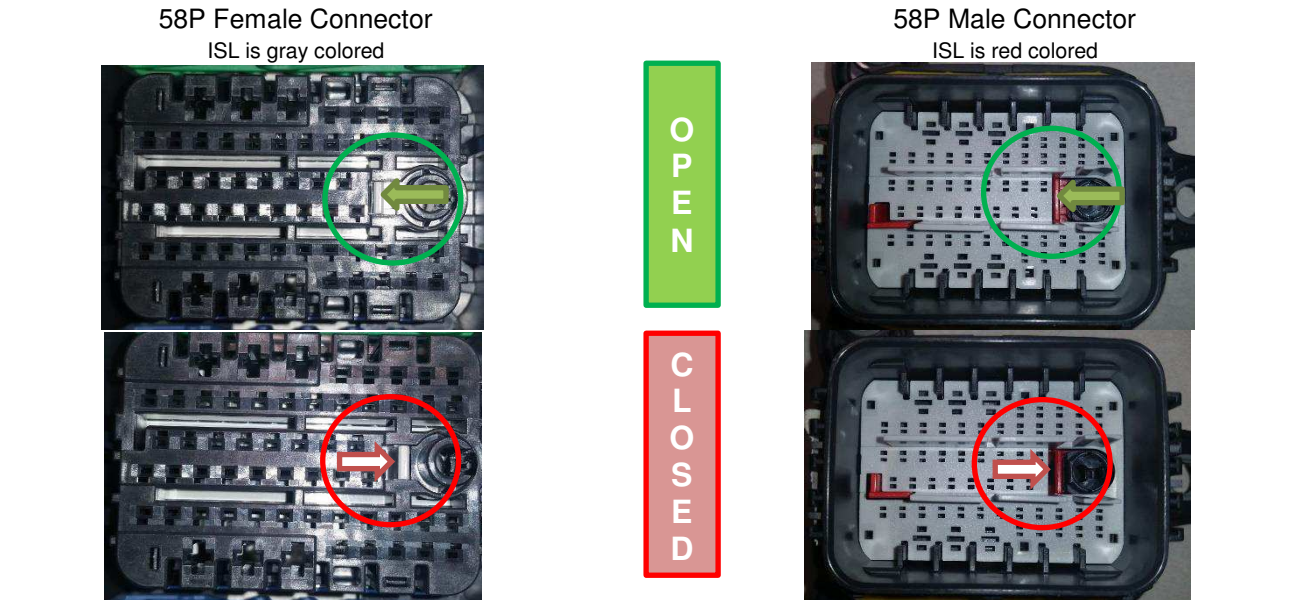

Figure 2
2. Confirm ISLs are positioned in the open state as shown in Figure 2. When viewed in this orientation, the ISL should be slid fully to the left (away from large circuit #21 Co-ax). If they are not, refer to Step 1 of Paragraph 4.3.